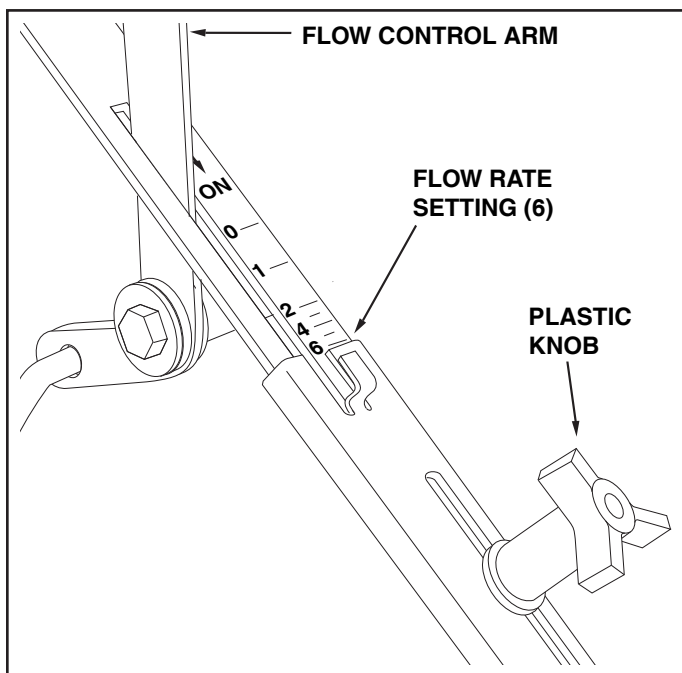

FIGURE 10
2. Loosen the knob and adjust the flow control gauge to the recommended setting. Retighten the knob. See figure 10.